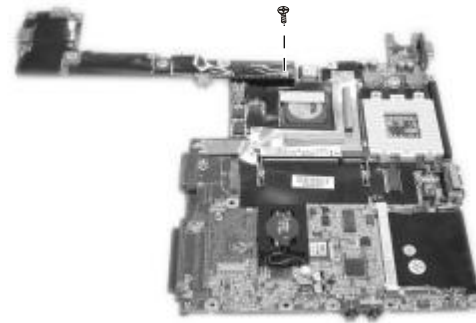

Figure 2-34 Remove the bracket
5. Carefully put the system board upside down. And remove one screw. (Figure 2-34)